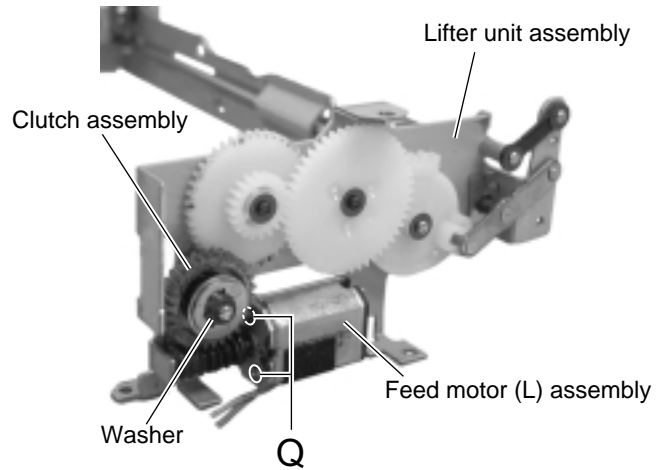

Fig.14
■ Removing the feed motor (L) (See Fig.14)